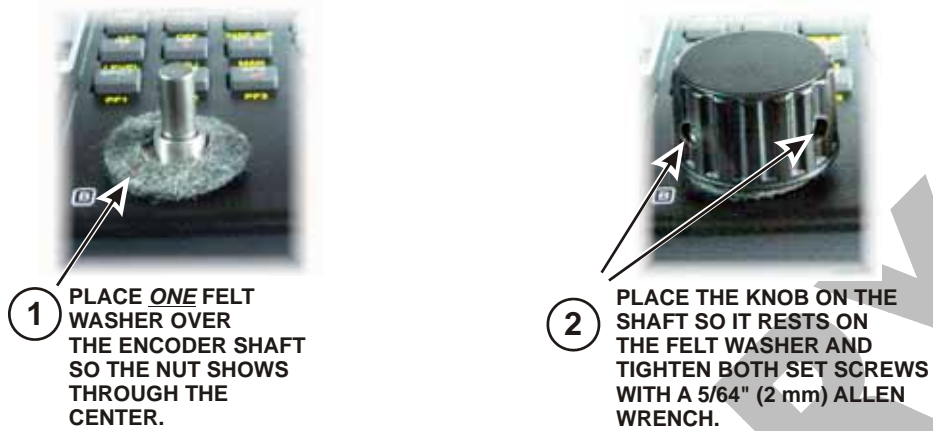

Figure 45. Mounting the VFO B Knob.
□ Mount the last knob on the VFO B encoder shaft to the right (under the pushbutton switches) as shown in Figure 45. Note that this knob takes only *one* felt washer.